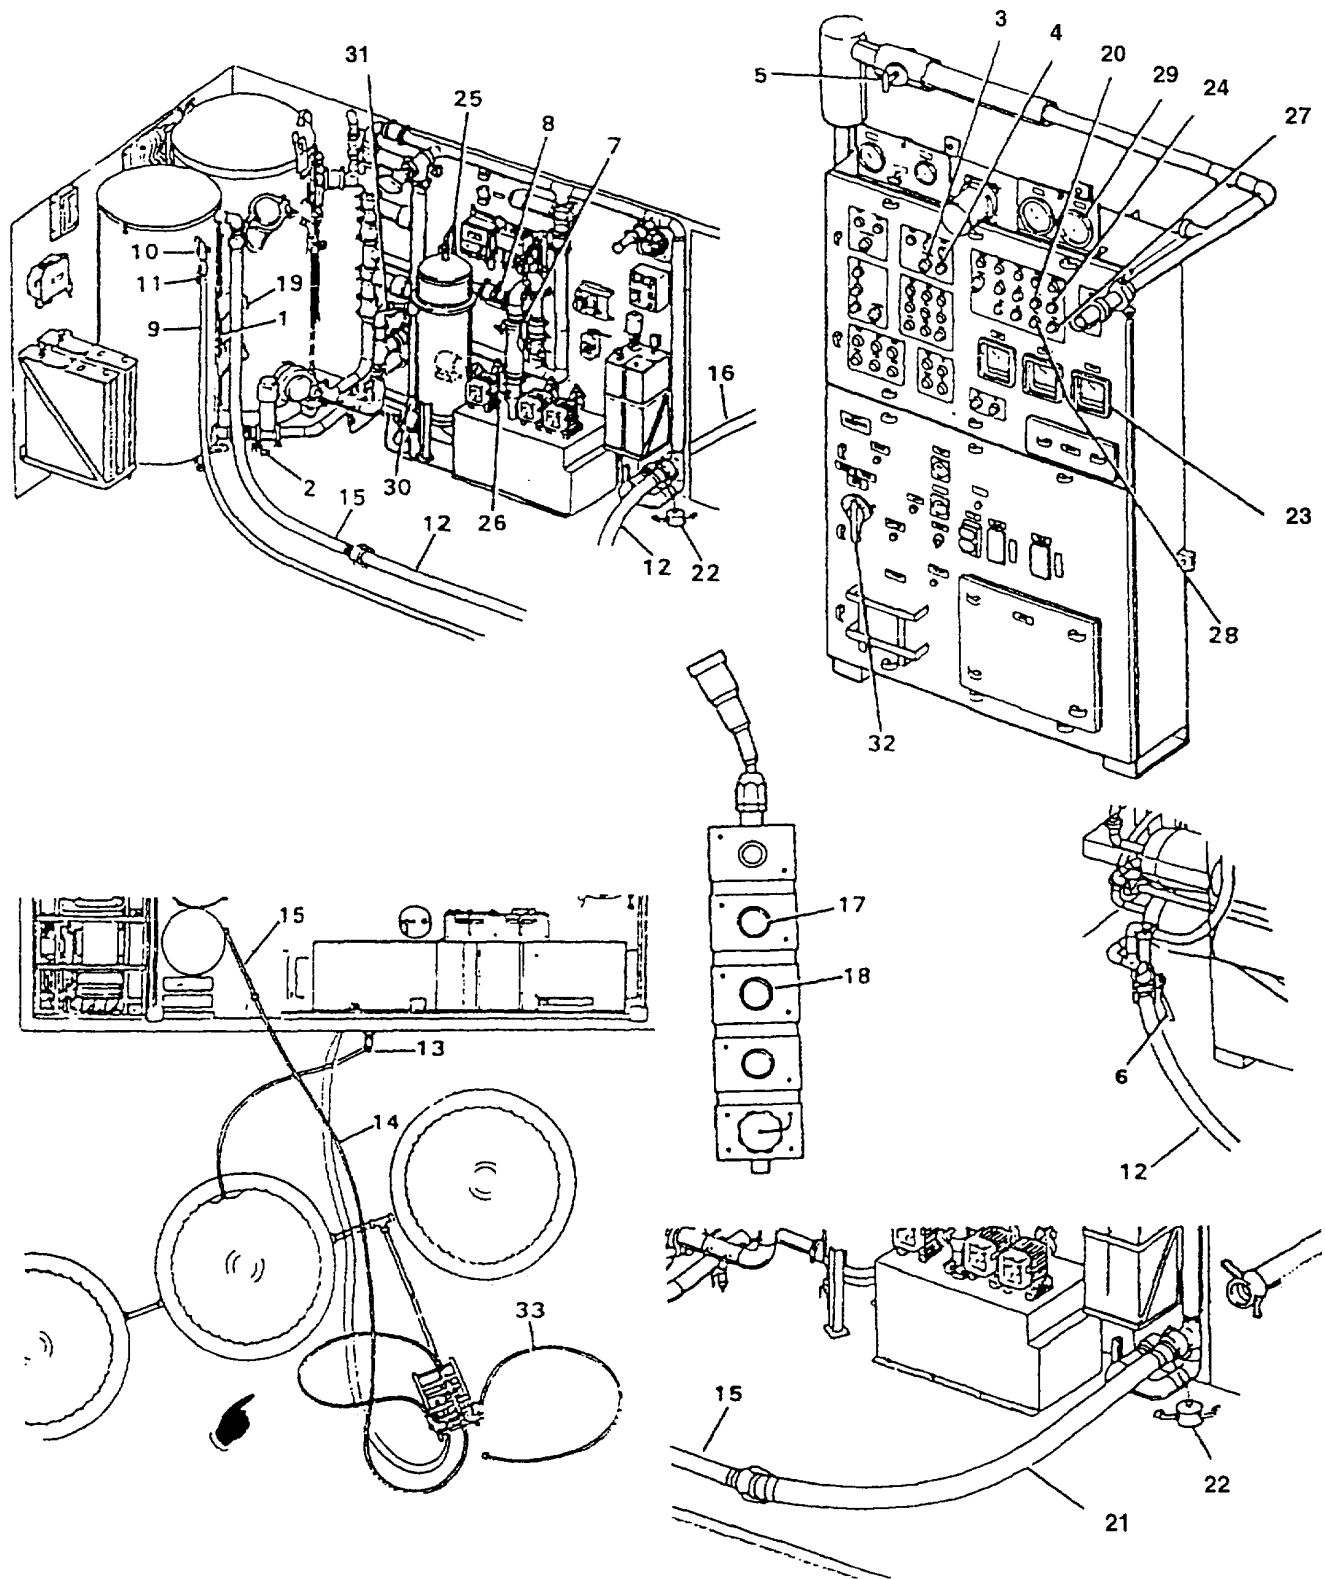

Figure 2-61. Detergent Cleaning
- (h) Open clean/flush tank drain (7).
- (i) Connect auxiliary fill hose (1) from distribution pump to overflow hose (14).
- (j) When clean/flush tank is empty, press DISTRIBUTION PUMP ON (16) to rinse tank.
- (k) When one minute has passed, close clean/flush tank drain valve (7). Press DISTRIBUTION PUMP OFF (17) when level reaches 75 gallons.
- (l) Remove chemical port cover (11). Add contents of one small bag of sodium bisulfite. Reinstall chemical port cover.
- (m) Press DISTRIBUTION PUMP ON (16) and, when clean/flush tank is full, press DISTRIBUTION PUMP OFF (17).
- (n) Press BOOSTER PUMP START (8) to flush system. Hold pushbutton in until feed pressure low light goes off.
d. Detergent Cleaning (Figure 2-61).
- Operational mode switch (3, Figure 2-61) set to system clean and light (4) on.
- System pressure control valve (5) fully closed.
- Clean return valve (6) open.
- Cleaning bypass valve (7) open. Feed valve (8) closed.
- Product utility hose (9) connected to clean/flush tank fill connection (10) and valve (11) open.
- Clean return hose (12) connected to waste out.
- Product shut off valve (13) closed.
- Auxiliary fill hose (14) connected to distribution pump and clean/flush tank overflow hose (15).
- Waste hose (16) connected to waste out connection.
(1) Flush RO vessels two additional times.